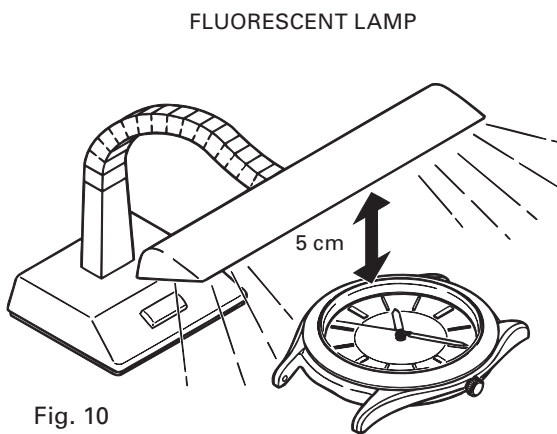

Fig. 10
- 2) Recharge the watch by placing it at a distance of 5 cm under the fluorescent lamp of 15 to 20 watts for 30 minutes (Fig. 10.)